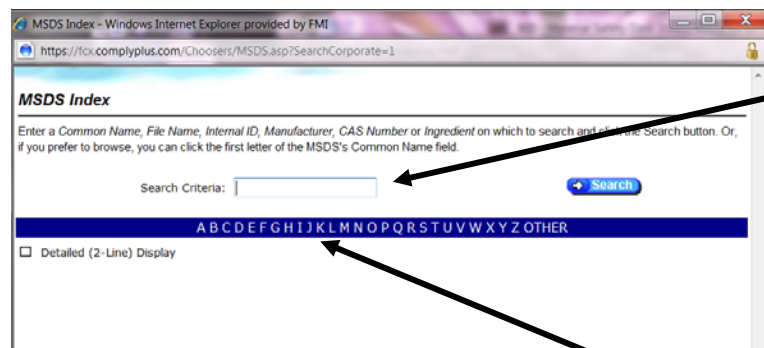

Figure 11
- e. Select button – click “Select” if requesting a review of an SDS from another FMI location already in the database. A box will appear to search the current database and attach the correct SDS by using the Search Criteria field or the alphabet list provided. Once the item is displayed click on it and it will be attached to the SDS submission. (see Figure 11)